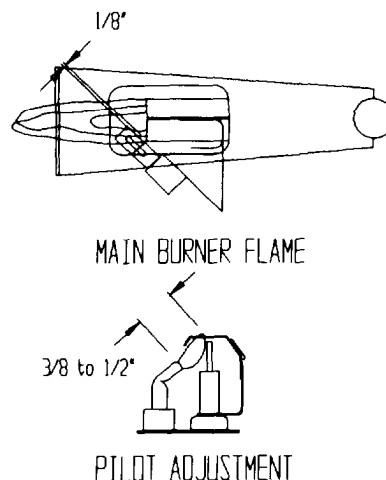

FIGURE 5
7). Adjust the pilot flame to envelop the flame sensor for a distance of $3/8"$ to $1/2"$. The adjusting screw for the pilot flame is located on the main gas control. (See Figure 5).
13). A visual check of the main burner and pilot flame should be made at the beginning of each heating season. See Figure 5 for proper flame.